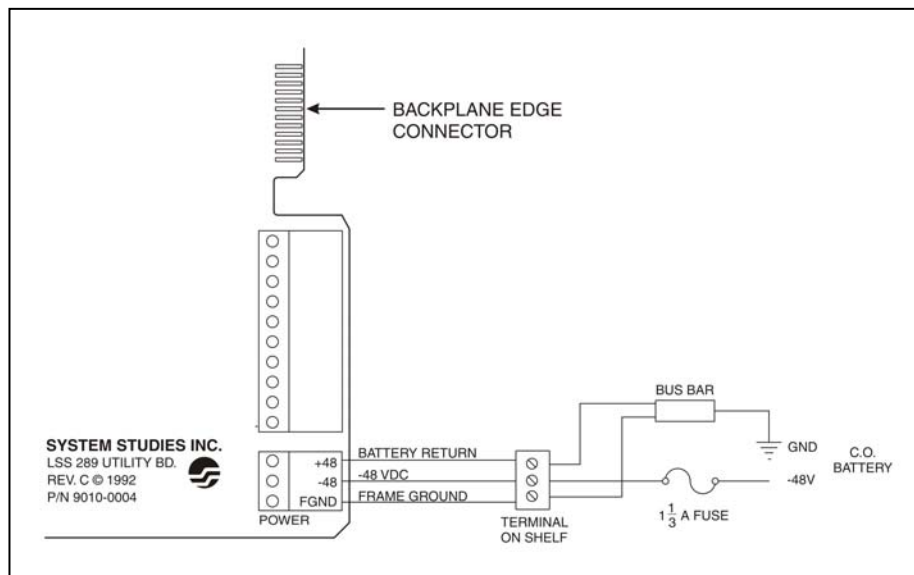

FIGURE 3-3: 289H UTILITY CARD WIRING SCHEMATIC
7. Plug the connection block back into the 289H Utility Card, making sure you replace it in its proper position (see FIGURE 3-3).